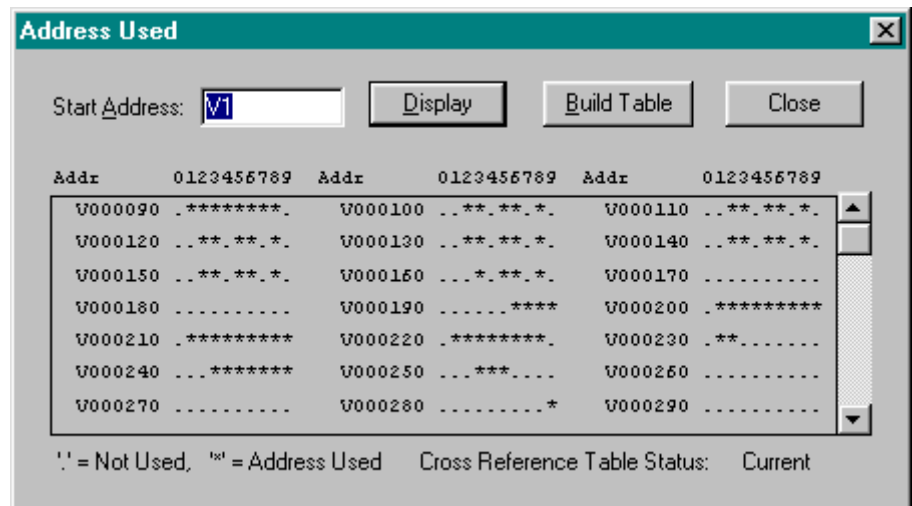

Figure 6.09b
1. Select Address Used Listing from the View menu. The Address Used Listing window appears (Figure 6.09b). If you have more than one program loaded, the information displayed is for the program in the active window. The Address Used Listing uses information from the Cross Reference Table. If the Cross Reference Table is not current, a warning will appear to build the table.